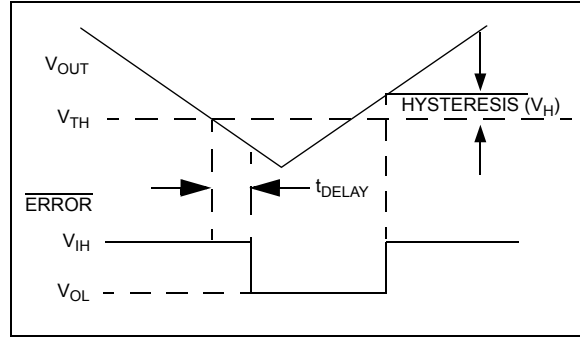

FIGURE 4-2: \overline{ERROR} Output Operation.
\overline{ERROR} is driven low whenever V_{OUT} falls out of regulation by more than -5% (typical). This condition may be caused by low input voltage, output current limiting, or thermal limiting. The \overline{ERROR} output voltage value (e.g. $\overline{ERROR} = V_{OL}$ at 4.75V (typical) for a 5.0V regulator and 2.85V (typical) for a 3.0V regulator). \overline{ERROR} output operation is shown in Figure 4-2.
- Changed Figure 4-2.